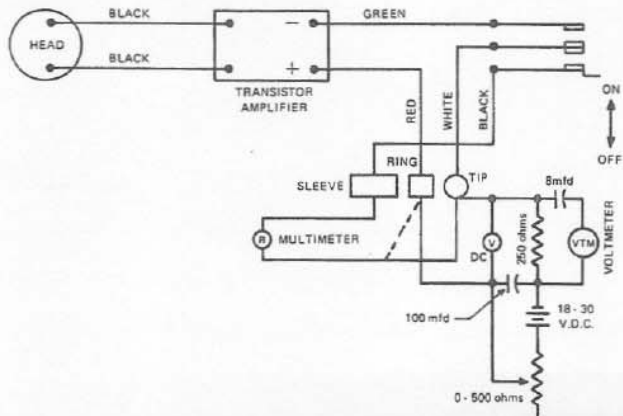
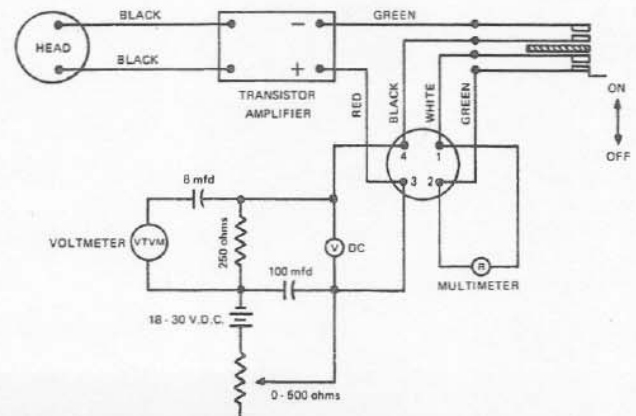

Figure 3 - Test Set-up (3 wire connection)
Figure 4 - Test Set-up (4 wire connection)
11. Check of Microphone Output. The best procedure for testing the microphone is to compare its output with one known to be operating properly, using the test set-up shown in Figure 3, or Figure 4. Check the output voltage as follows: